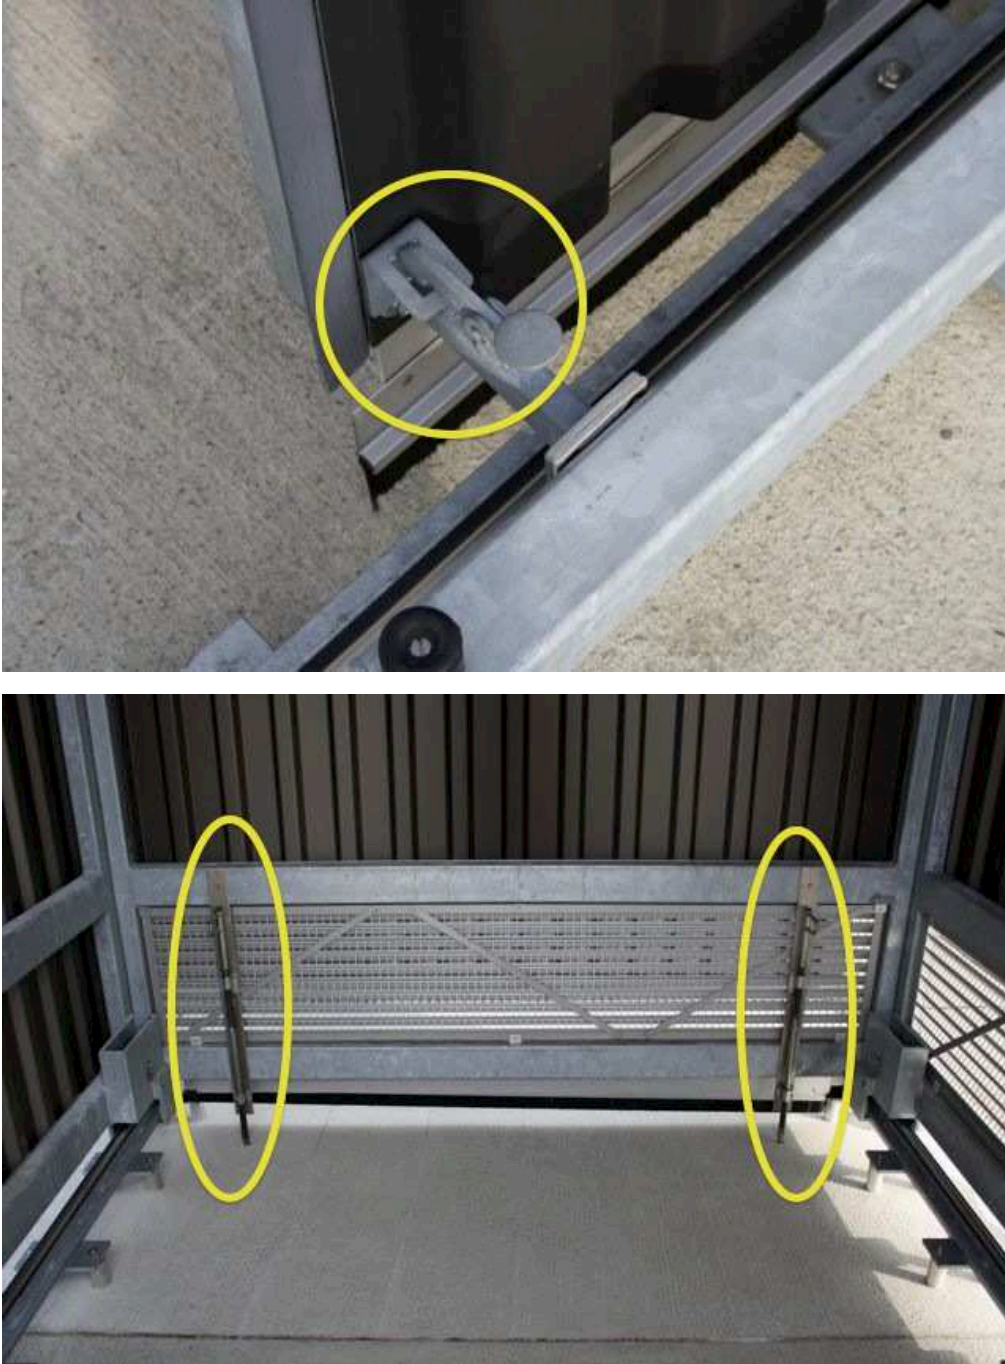

Figure 1: door locks (*top*) and dome locks (*bottom*).
- make sure the open doors are snapped into their secure locks (they cannot swing back, see Fig. 1)
- release the dome locks (located inside the dome, see Fig. 1)